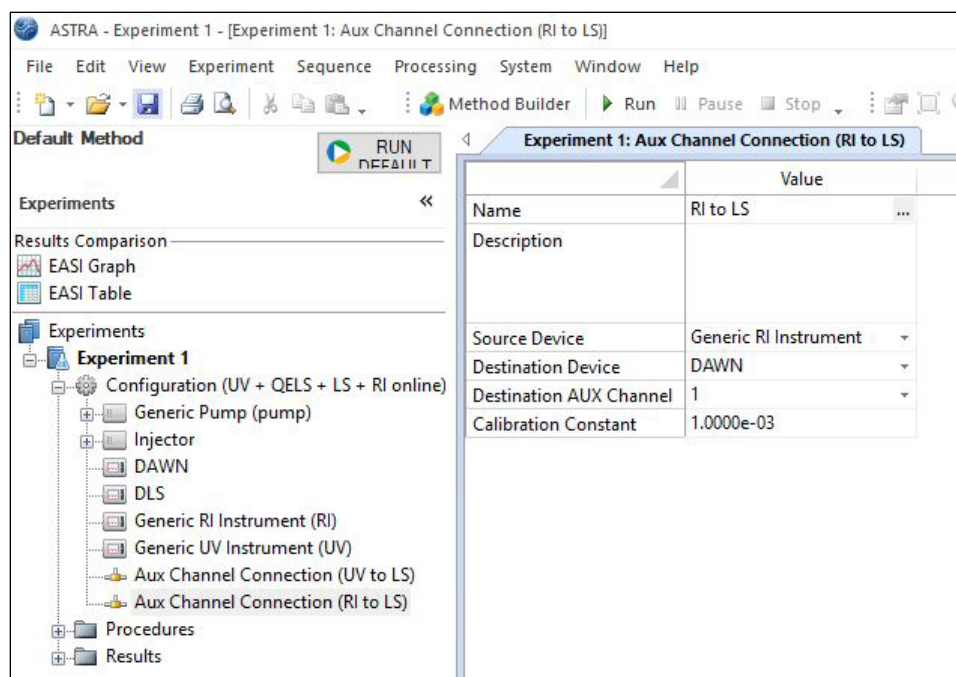

Figure 10. A screenshot of ASTRA software with the Configuration node expanded and Aux Channel Connection (RI to LS) selected.
5. The **Aux Channel Connection (RI to LS)** configuration defines the physical analog input connection that has been established between the RI detector and the Wyatt instrument as described above. This definition is necessary for ASTRA software to be able to use the analog RI signal. Expand the **Aux Channel Connection (RI to LS)** configuration by double-clicking on the heading (see Figure 10). The parameters are: